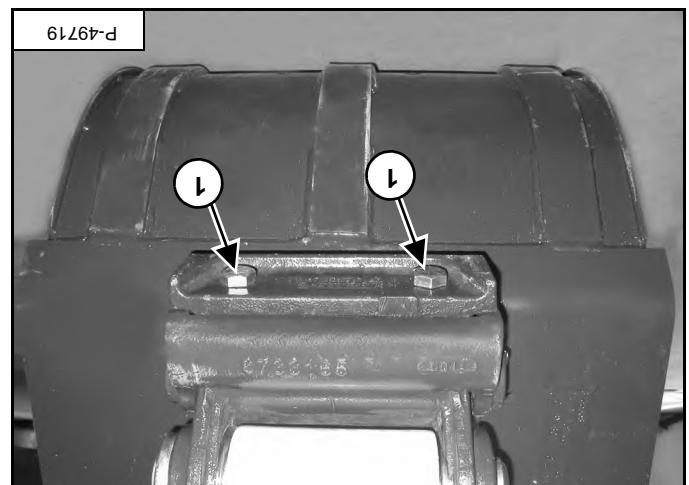

Figure 86
Install the bolts (item 1) [Figure 86] through the plate and into the X-Change.